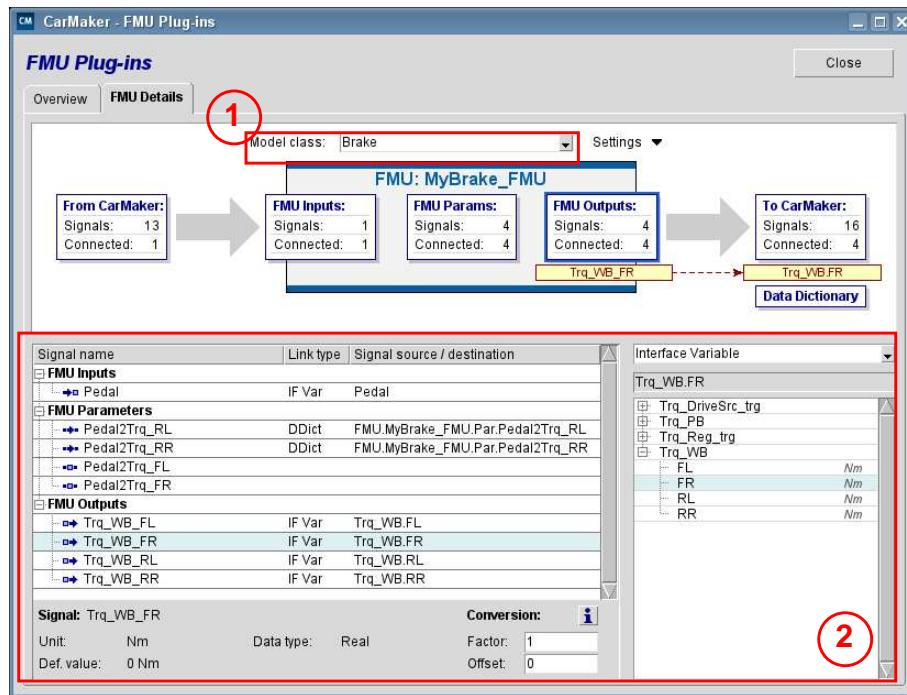

Figure 9.3: FMU Edit
If the FMU is opened in CarMaker for the first time, it must be adapted to the CarMaker simulation environment before it can be used. Select the desired FMU and click *Edit* to change to the tab *FMU Details* shown in Figure 9.3.
Before the FMU can be configured, the appropriate model class must be selected (see (1) in Figure 9.3). Possible model classes are the following:
Once a model class has been attributed to the FMU, the FMU's inputs and outputs need to be connected to suitable signal sources and signal destinations respectively in CarMaker. For this, use the table as shown in (2) in Figure 9.3.